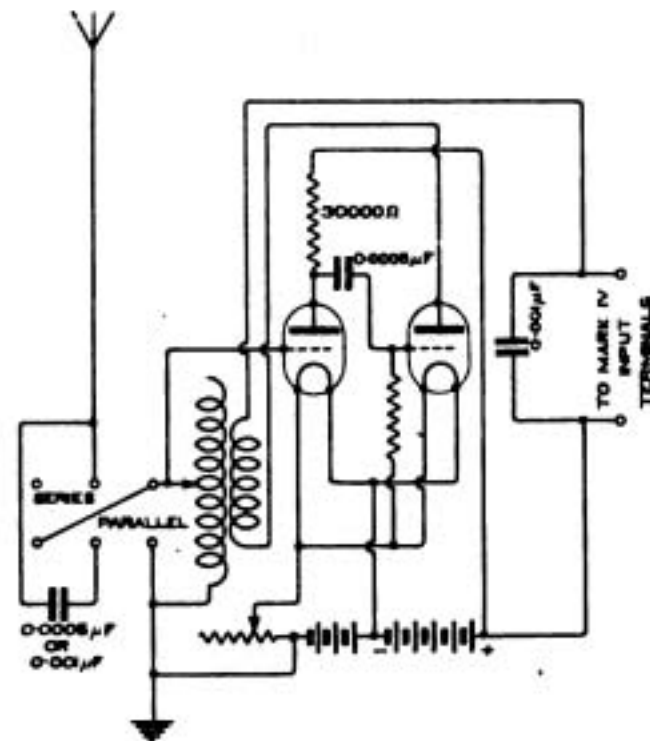

Fig. 6.
SPARKS (Berwick-on-Tweed).—(1) See Fig. 6.
(2) Anode resistance 30,000 ohms, grid condenser 0.0002 mfd., grid leak 2 megohms, anode battery 50 volts.
(3) Possibly a 1/1 ratio iron cored transformer, coupling the rectifier to the Mark IV first valve would improve the working of the set.
(4) Yes. It can be made useful for longer wavelengths still.
H.C.B.B. (Bromley).—(1) The sample is of No. 32 gauge.